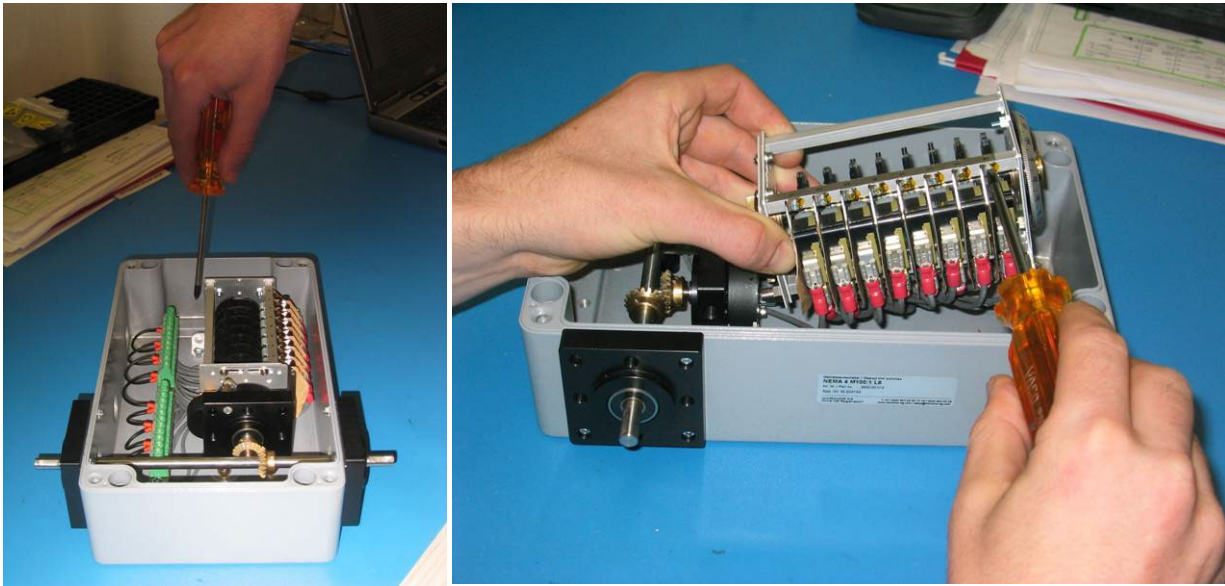

Figure 14. How to replace Microswitch
To replace a microswitch, follow these steps while consulting **Figure 14**:
2. Using a slotted screwdriver (consult **Figure 14**), loosen (but do not remove) the two screws holding the rear mounting flange of the cam switch subassembly. To gain access to the microswitches, grab subassembly and pull back to disengage from the two mounting screws loosen in the previous step. This will expose the two gears – one that is attached to the gear box and the other attached to the cam switch shaft.